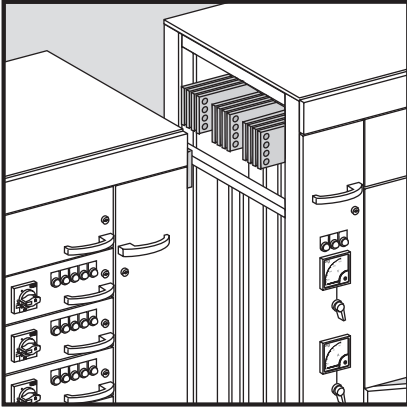

Fig. 15 : Sliding fishplate
■ Joining with sliding fishplates (see Fig. 15 and 16):